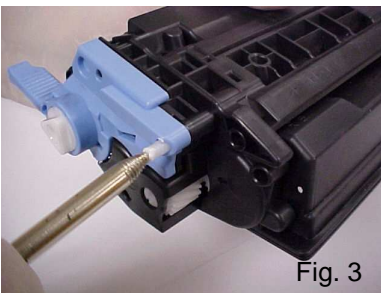

Fig. 3
3. Remove the plastic cartridge pin from the gear side of the cartridge using a pin removal tool or a screw (Fig. 3).